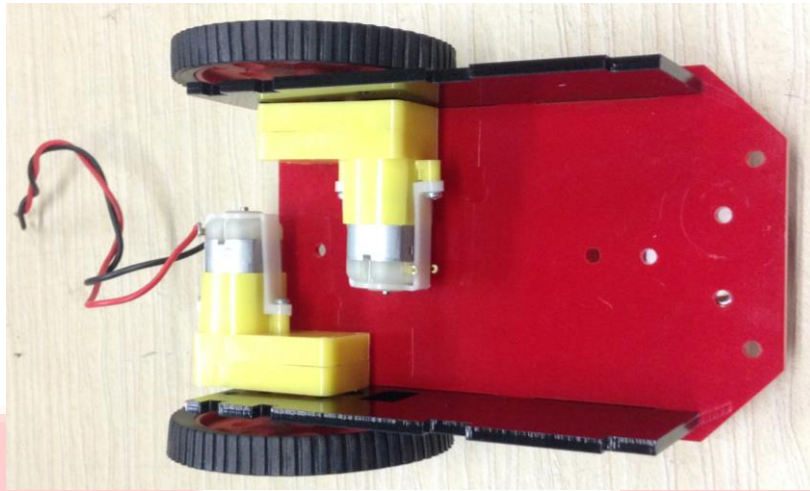

Figure 7: Assembling the Bottom Plate and the Side Plates
Step 3: Now take the Bottom Plate and the two assembled Side Plates and assemble them as shown in Figure 7.